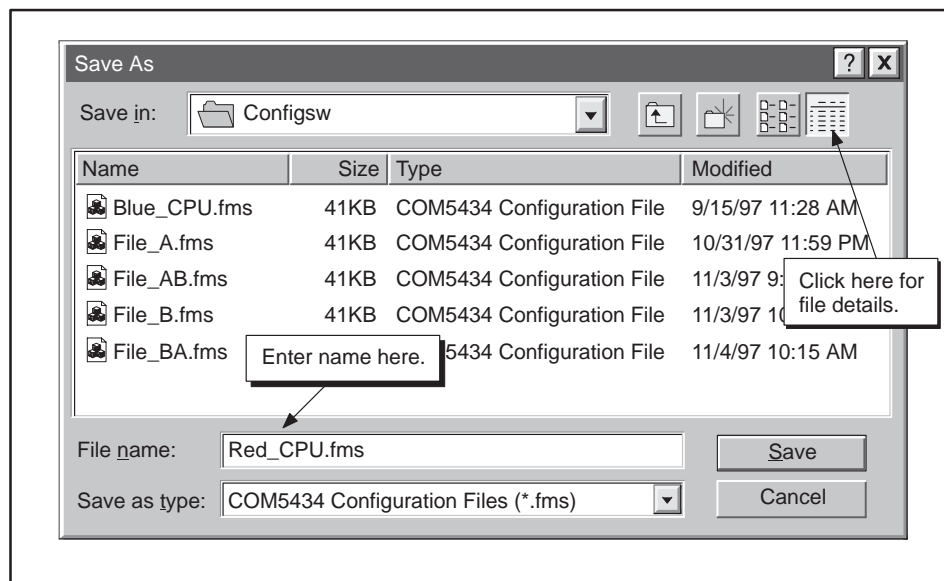

Figure 6-30 Save As Dialog
3. Enter a file name, as shown in Figure 6-30.